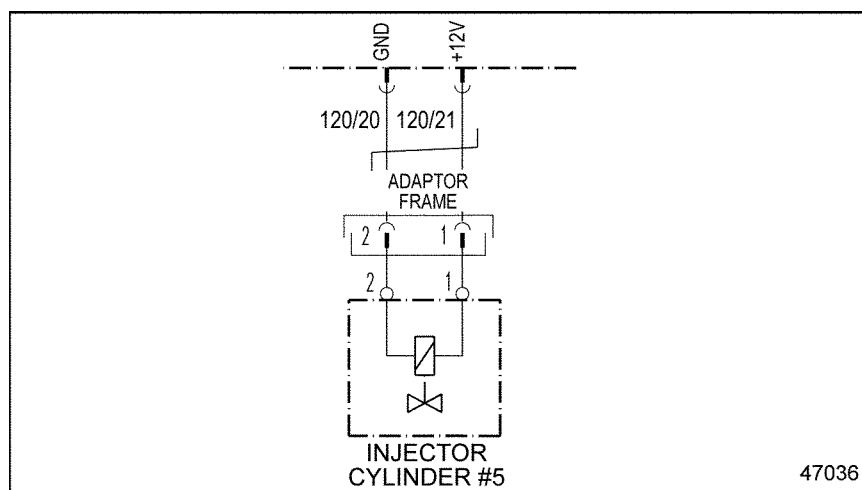

Figure 28-2 Injector #5
5. Measure the resistance between pin 1 of injector #5 and ground. See Figure 28-2.